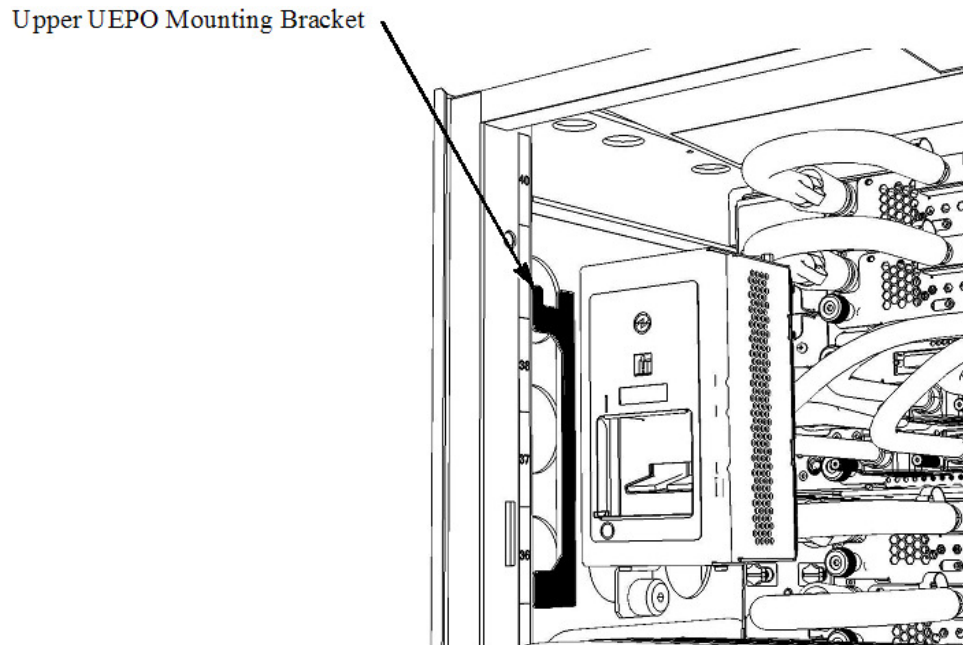

Figure 16: Frame UEPO Service Position
STEP 18 Place the UEPO in the “Frame UEPO Service Position” in the Rack (see Figure 16).
STEP 20 Do the Disk Enclosure Rails being serviced reside in a DE located in U17 (see Figure 16)?
STEP 21 Remove the door latch plate before proceeding. Unscrew the plate using the Hex Driver torque tool PN 41V1059 (4mm Hex Driver 1.5-1.75 Nm) provided in the tool kit using Figure 16 for reference.